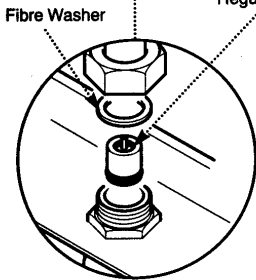

Fig. 69
**13.22 Domestic Hot Water Filter and Flow Regulator Cartridge (Fig. 69)**